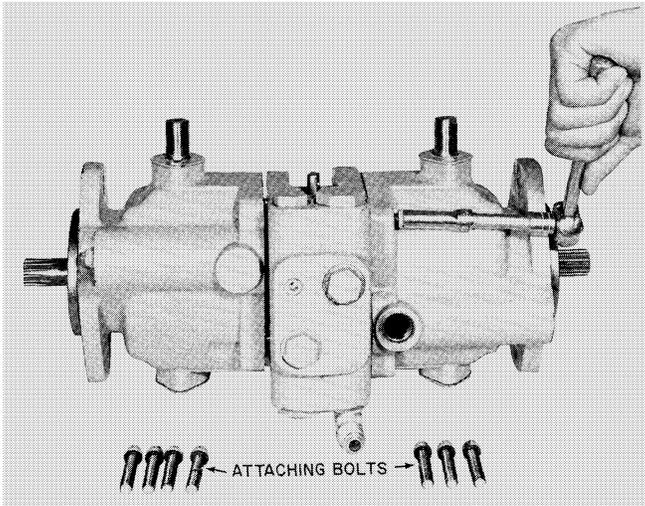

FIGURE 11
1. Remove the four mounting bolts connecting the hydrostatic pump to the valve plate and the four bolts connecting the hydrostatic motor to the valve plate. See Figure 11.